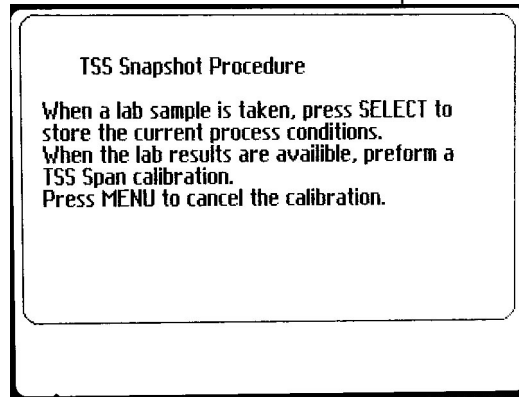

Figure 32 - TSS Snapshot Procedure
4. On the resulting TSS SNAPSHOT PROCEDURE screen (Figure 32), press the SELECT key when the physical sample is taken from a site near the sensor. Conditions are stored and the PT2 will return to the previous menu screen.